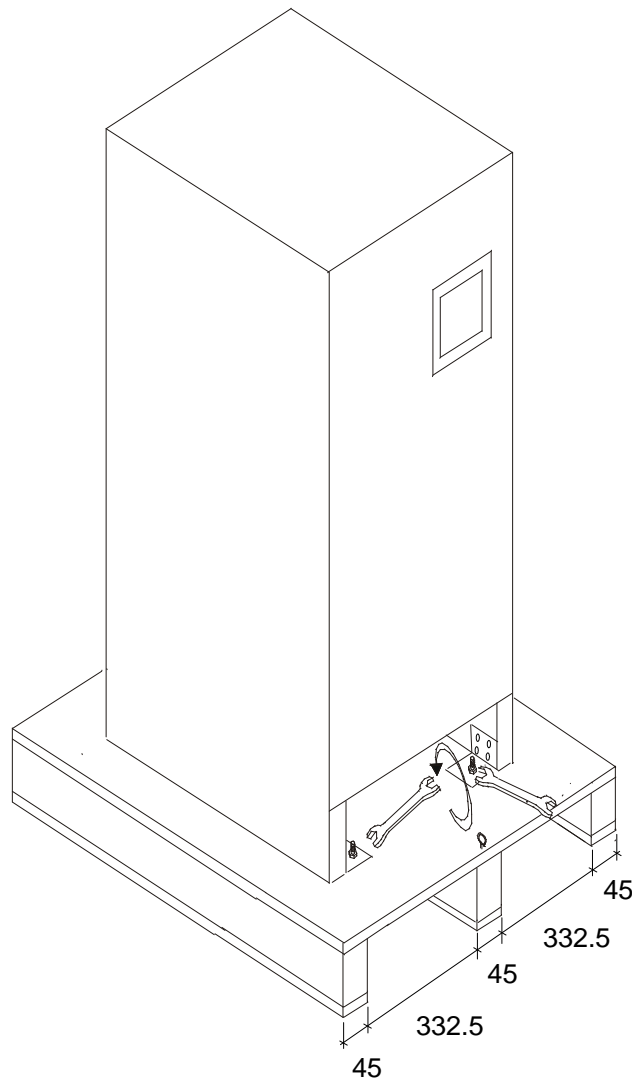
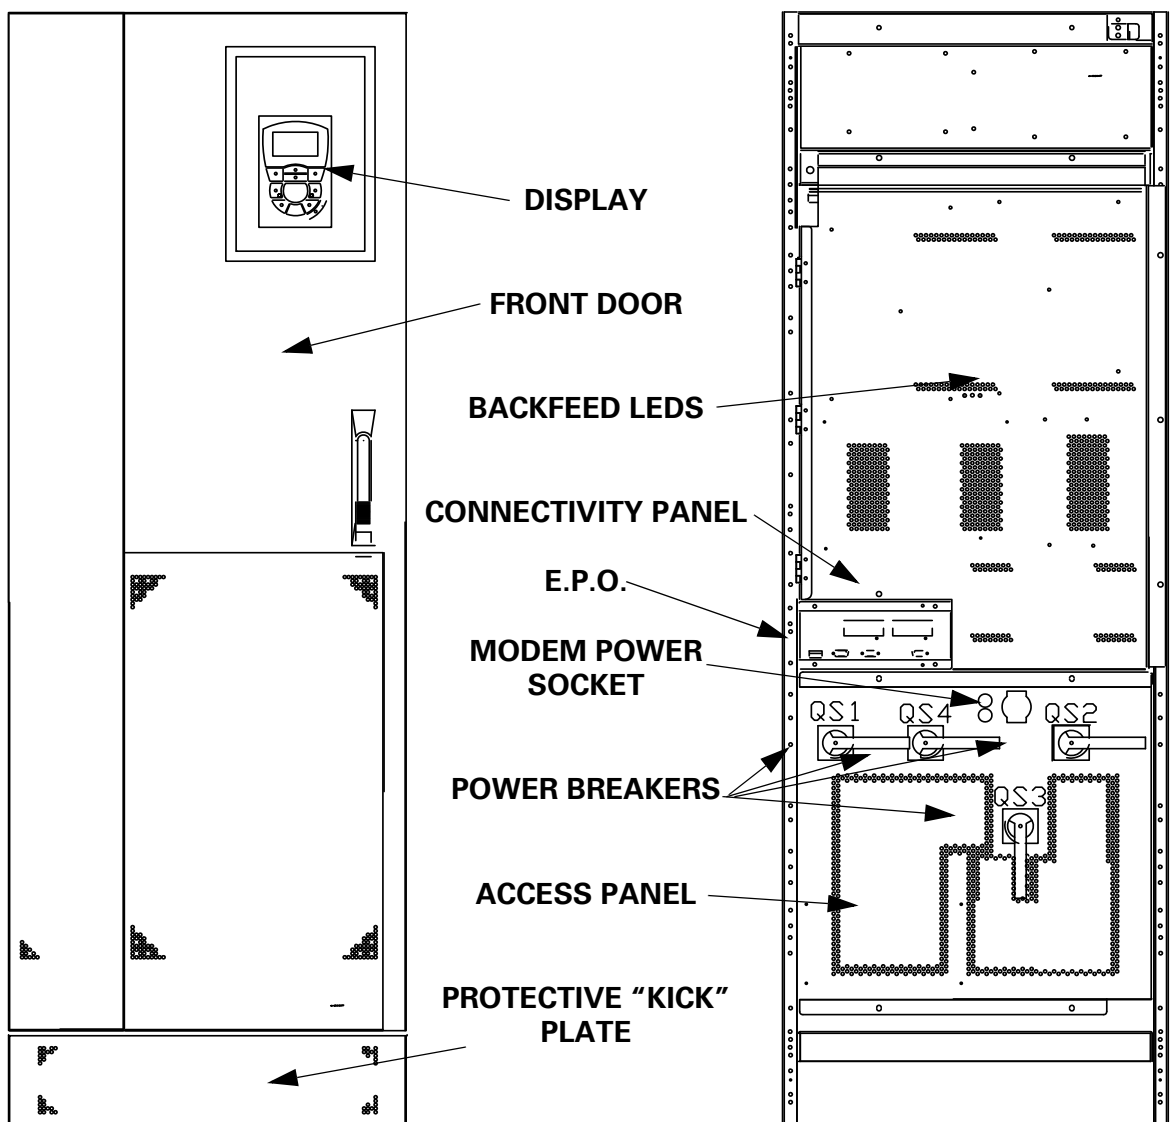

Figure 1 - Unpacking
Figure 5 - Front view, with (left) and without (right) front door
The utmost care shall be taken when removing the packaging in order to avoid damaging the equipment. Check all packaging materials to ensure that no items are discarded. Once the packaging has been removed, the UPS shall be taken off the pallet by removing the protective panel (see Fig. 5 on page 15) and the retaining screws, as illustrated in Fig. 1 on page 11, and lifting it off using a fork lift (max width between forks - 540mm - Ref EN 1757). Note that the retaining brackets must not be unscrewed from the UPS feet. Note also, that when moving the pallet, the maximum distance between forks is 690mm.
This event is accompanied by warning message 48 on the LCD display - "Backfeed Protection Active". There are also two LEDs located on the secondary access panel (see Fig. 5 on page 15), the green one is illuminated during normal operating conditions (no backfeed), while the red one indicates that a backfeed has been detected.
In order to gain access to the external electrical connections it is necessary to open the front door of the UPS and remove the secondary access panel (see Fig. 5 on page 15). Connect the earth cable (PE) first at ⊕.